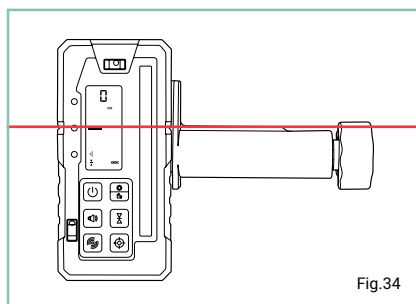
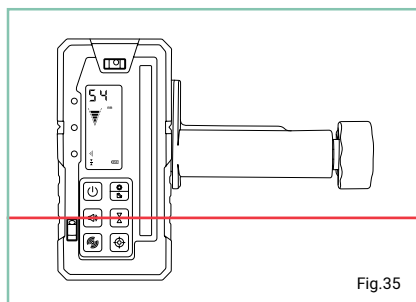

Fig.34
Fig.35
- The direction arrows or level line on the LCD screen will indicate the position of the laser beam. The digital display will indicate a millimetre reading of the adjustment required (Fig.34 & Fig.35).
- When the level position has been located, the speaker will emit a constant beep and show the centre alignment line on the LCD screen (Fig.34).